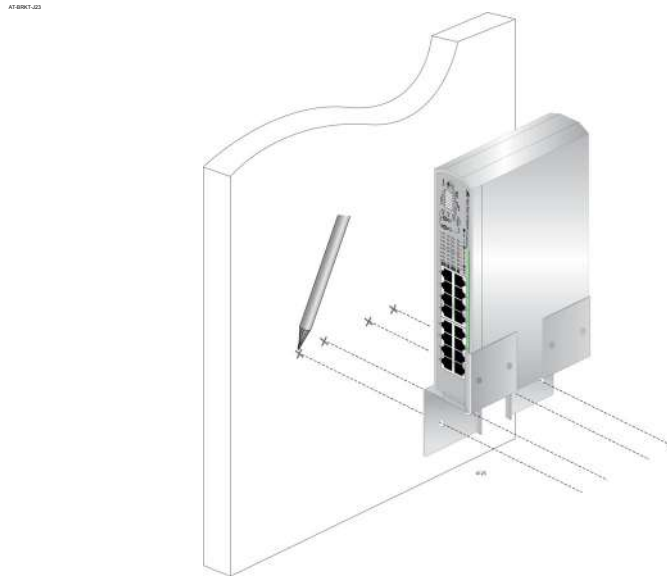

Figure 17. Marking the Screw Hole Locations
3. Have another person hold the switch with the brackets at the wall location where the switch is to be installed, while you use a pencil to mark the wall with the locations of the four holes in the brackets. See Figure 17 as an example.
Figure 17 shows the front panel oriented toward the left side. However, the switch can be mounted on the wall with the front panel facing left, right, up or down.